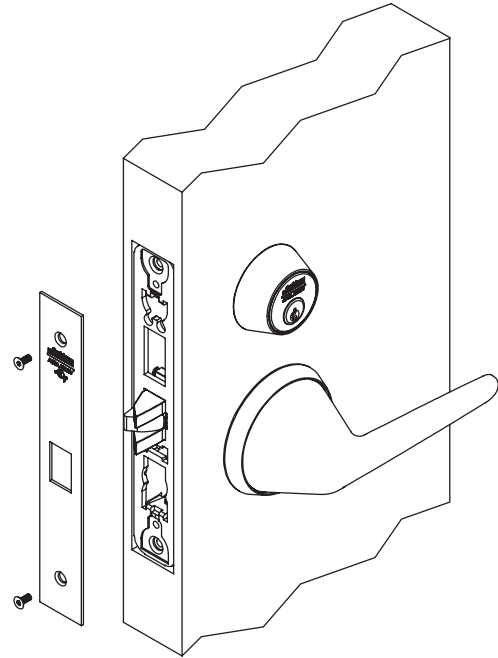

Figure 24
1. Install lock front using two (2) front screws. (Figure 24)